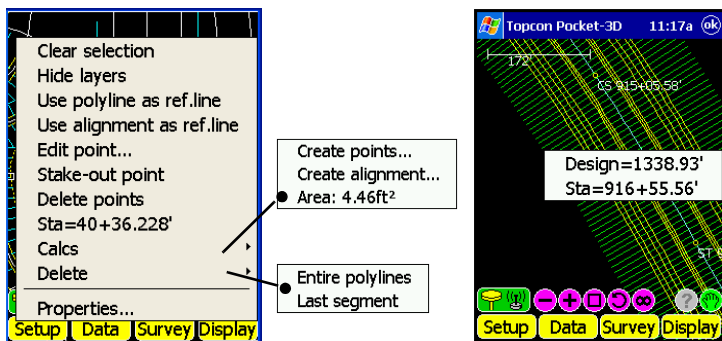

Figure 1-3. Pop-up Menu Options
The pop-up menu on the main screen (Figure 1-3 on page 1-3) contains frequently accessed functions, and information about selected data. To display the pop-up menu, rest the controller’s stylus on the point, station, or polyline for at least one (1) second.